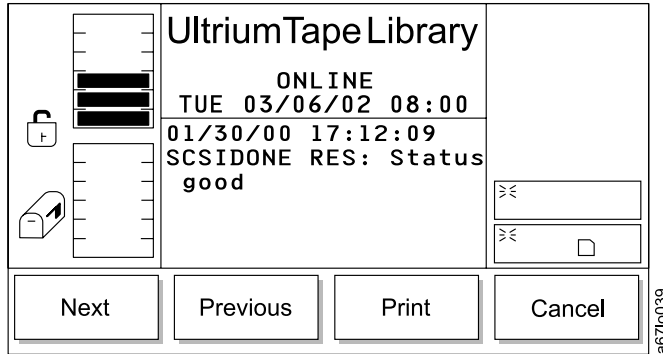

Figure 97. Command Log Dialog
- If **Command Log** is selected, the Command Log Dialog displays (see Figure 97 on page 100).
- If **Cancel** is selected, the Command Log Dialog displays (see Figure 97).